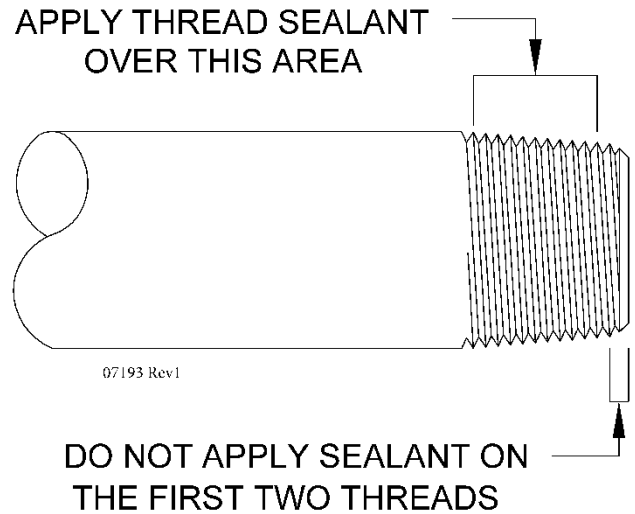

Figure 8 Applying Thread Sealant
- 1.13.2 Apply thread sealant to all pipe connections using the method illustrated in Figure 8. A “Union” type connection is recommended at the TEG.